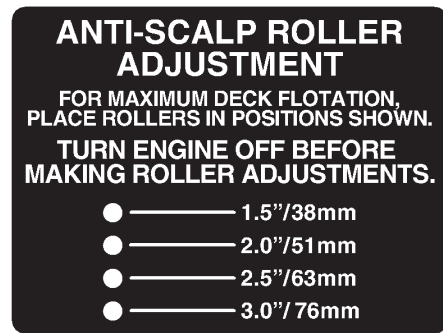

Figure 13
2. Select a hole so the anti-scalp roller is positioned to the nearest corresponding height-of-cut desired (Fig. 13).